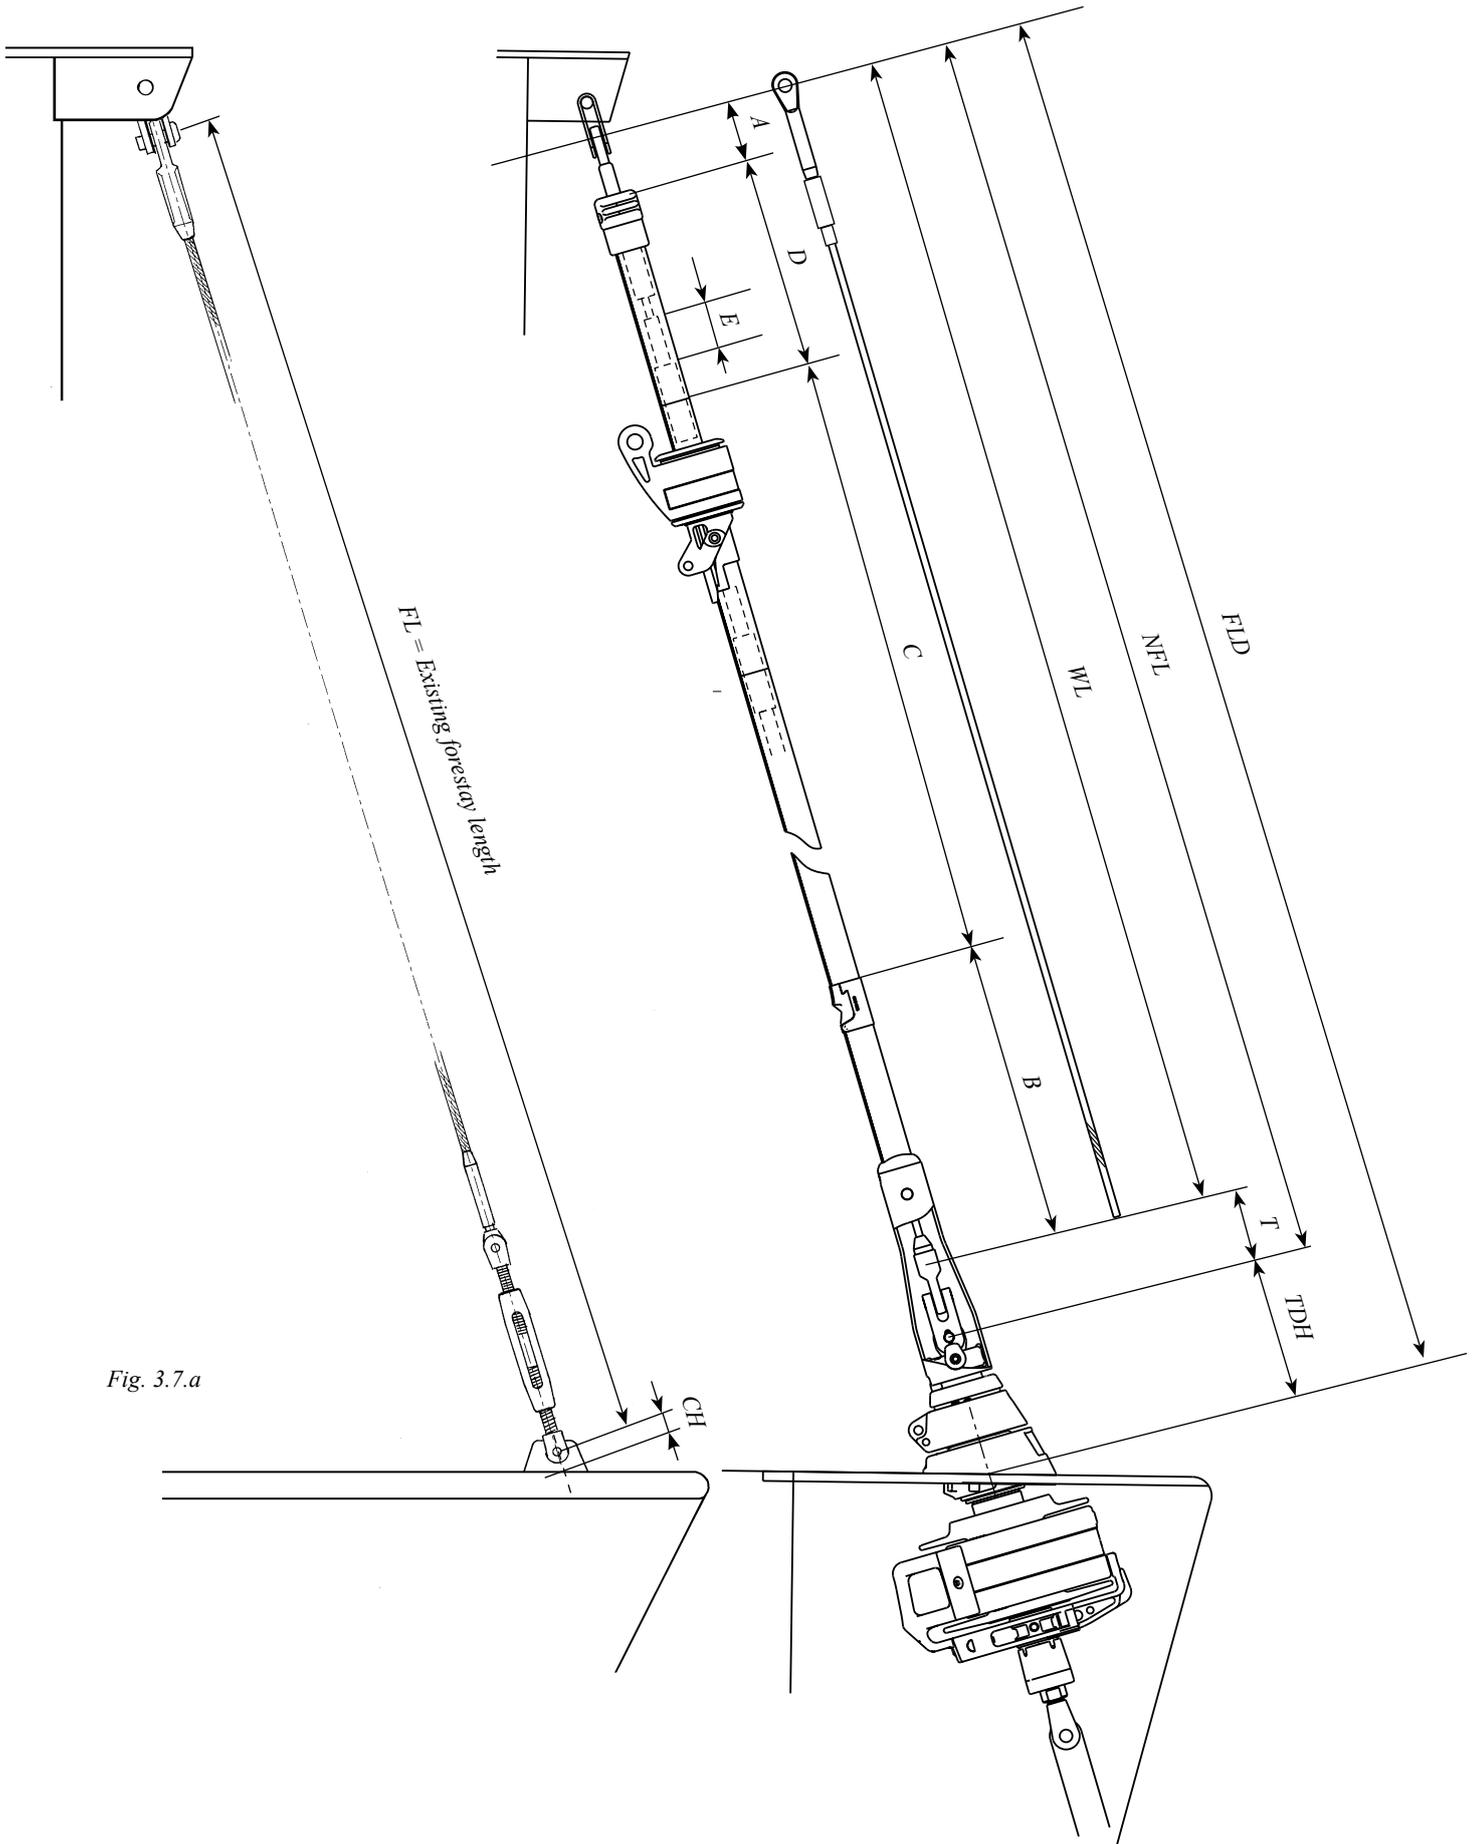

Fig. 3.7.a
<ol style="list-style-type: none"> <li>1. Establish the forestay angle (FA). Use an accurate drawing, which shows details of the area of the deck where the Furlex will be attached, to be able to determine the precise forestay angle (see fig 3.5.c).</li> <li>2. Transfer this angle to a cardboard jig.</li> <li>3. Press the jig against the underside of the deck and move it longitudinally until the edge representing the forestay line intersects the hole in the forestay fitting in the anchor well. Mark the intersection point on the underside of the deck and drill a 6.5 (1/4") mm hole through the deck.</li> </ol> <p data-bbox="252 922 359 954">Fig. 3.5.c</p> 	<ol style="list-style-type: none"> <li>1. Make a jig which represents the forestay angle (FA) above deck (See fig 3.5c)</li> <li>2. Using this jig, mark the angle CSA between the forestay fitting in the anchor well and the deck fitting intersection point</li> <li>3. If these angles are equal, the existing forestay fitting is correctly located.  If the angles are not equal, the forestay angle FA must be used also below deck to decide the intersection point.  Press the jig against the underside of the deck and move it longitudinally until the edge representing the forestay line intersects the hole in the forestay fitting in the anchor well. Mark the intersection point in the fore-and-aft direction accurately.</li> <li>4. Remove the forestay. The recommended procedure is to first slacken the backstay. Then pull the masthead forward using the genoa halyard. Secure the halyard using a "D" shackle or tie to a strong deck fitting. For safety reasons do not use the halyard snap shackle.  NOTE. If the forestay is to be used to decide the forestay length FLD (see fig. 3.7.a), the setting of any rigging screw must not be changed</li> <li>5. Measure the height CH (see fig 3.7.a) on the forestay fitting and enter the figure in table 3.6.1.</li> <li>6. Remove the forestay fitting from the deck.</li> <li>7. Mark the intersection point on the underside of the deck by drawing a line along the longitudinal centreline of the boat and using earlier marking as per item 3.</li> <li>8. Drill a 6.5 mm hole at the intersection point.</li> </ol>
5. Measure the forestay length (FL) with just enough tension to keep it straight.
7. Calculate the new wire length WL in Table 1. Refer to the column marked "example" and fig. 3.7.a to see how this is done.